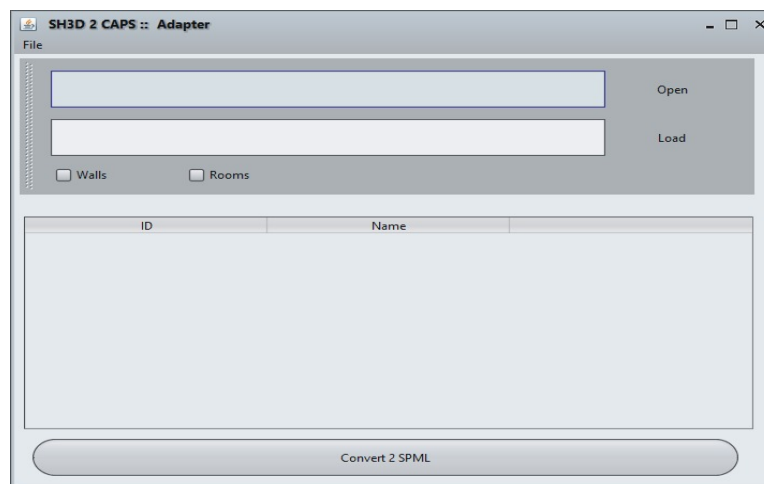

Figure 4.1: CAPS adapter
- CAPS regards also the environment surrounding the sensors and so on. This part is called **SPML**. You need **Sweet Home 3D** in order to model some building and to place some sensors in it. Once you have done it, you will need a **jar file**, called **CAPSAdapter**. Open it and you will get something like the figure 4.1;